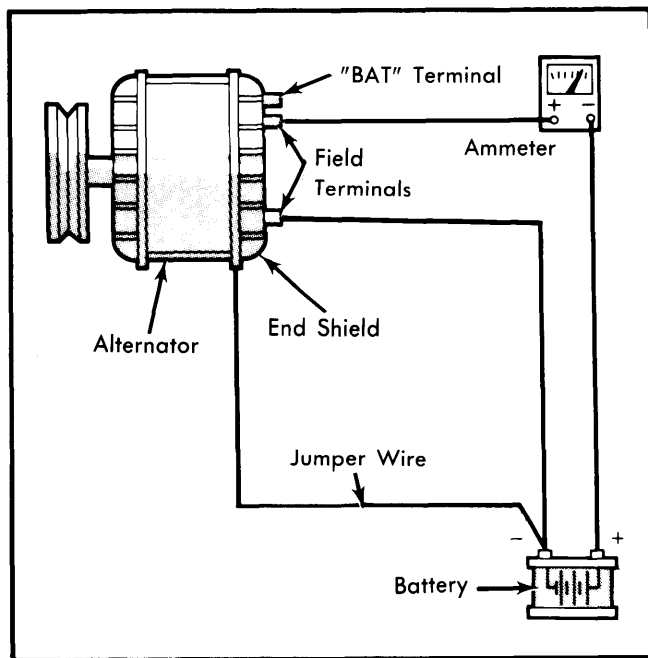

Fig. 3 Ammeter Connections for Field Coil Current Draw Test
2) Connect a jumper wire from negative terminal of battery to end shield. See Fig. 3. Slowly rotate alternator by hand. Observe ammeter reading. Field coil draw should be 4.75-6.0 amps. for 117 amp. alternator or 4.5-6.5 amps. for other models at 12 volts.